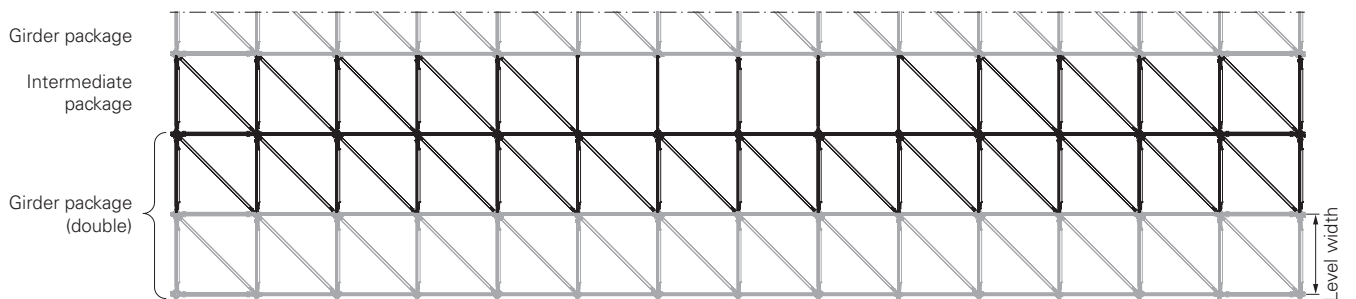

Fig. B2.04b
- With an even number of packages, a double girder package is mounted in the edge area. (Fig. B2.04b)